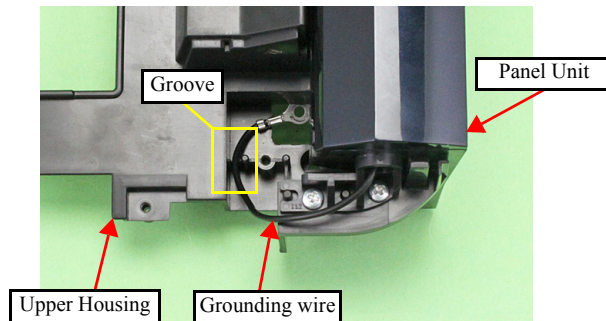

Figure 9-13. Routing the Grounding Wire
- When installing the Decoration Plate Left Upper, route the grounding wire of the Panel Unit through the groove of the Upper Housing. Be careful not to let it get caught by the Upper Housing. (See Fig. 9-13.)